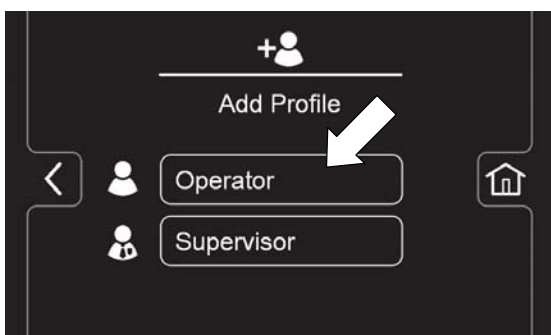

FIG. 142
3. Press the “Operator” button to add a new operator (Figure 142).
Or press the “Supervisor” button to add an additional supervisor (Figure 142).